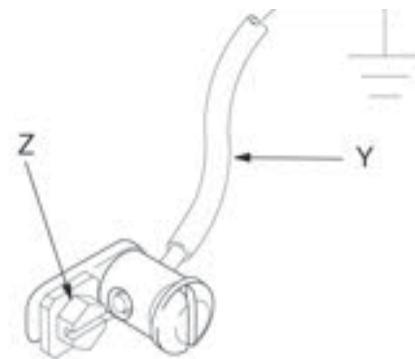

FIG. 1
Pump: Use a ground wire and clamp as shown in Fig. 1. Remove the ground screw (Z) and insert through the eye of the ring terminal at end of ground wire (Y). Fasten the screw back onto the pump and tighten securely. Connect the other end of the wire to a true earth ground. To order a ground wire and clamp, order Part No. 222011.